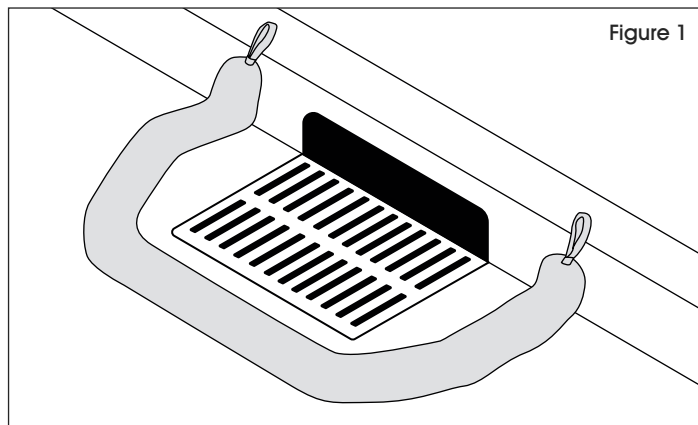

Figure 1
- a. **Single Sock:** Form sock around the grate in a U-like shape. (See Figure 1)